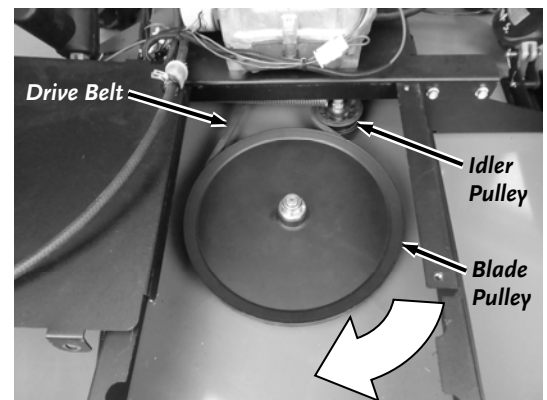

Figure 44
- From the front of the machine, rotate the Idler Pulley away from the Blade Pulley as you position the Belt between the two Pulleys (**Figure 44**).